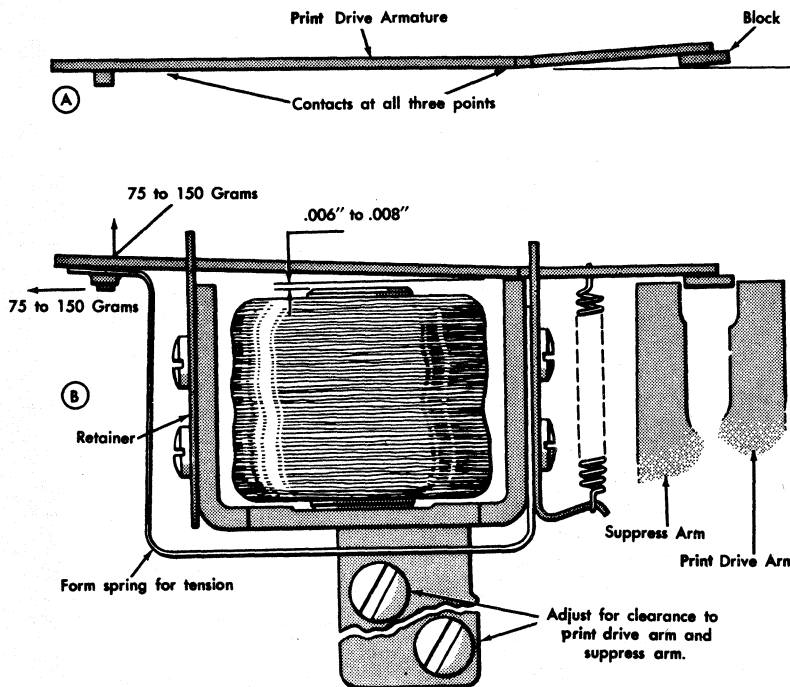

Figure 109. Print Magnet
1. Form print magnet armature so that a straight edge contacts the three points shown in A, Figure 109. Armature should be free of binds and free to move across yokes. It should not bind in retainer.
3. Form armature spring for tensions indicated in Figure 109.